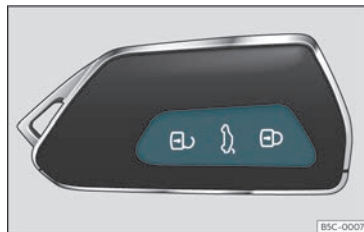

Fig. 78 Remote control key: buttons.
- Lock: press the  button >>> Fig. 78.